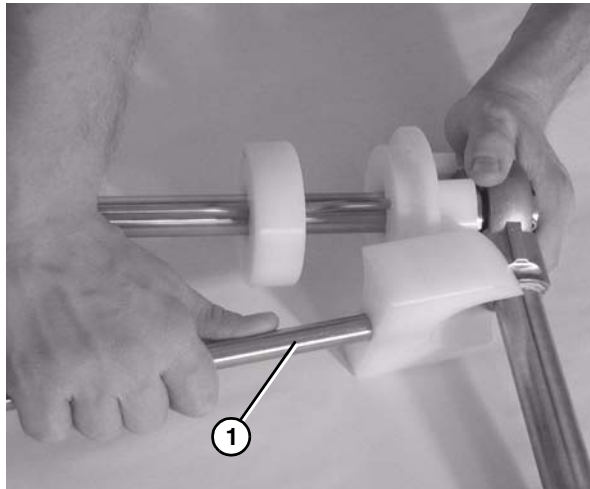

Figure 72
4. Attach the guard bar (**Figure 72, item 1**).